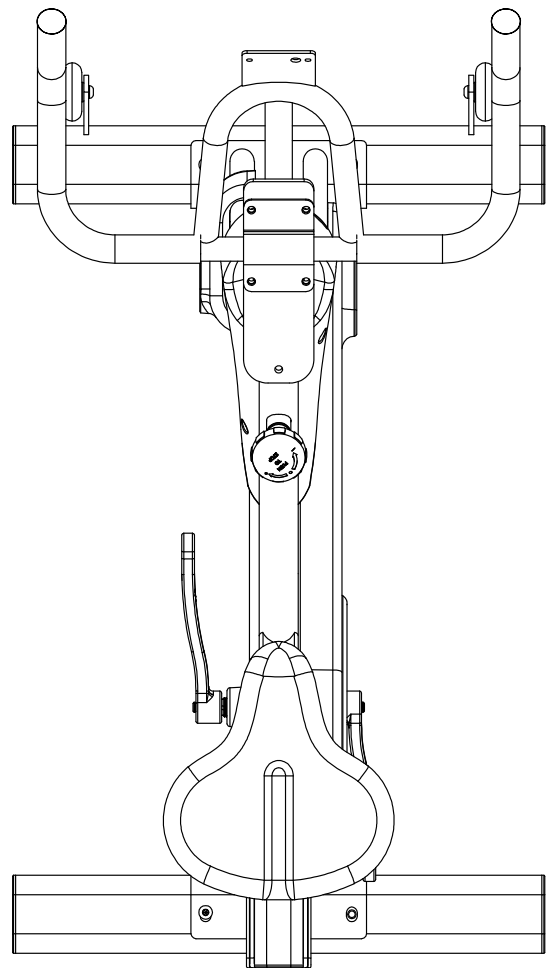

Fig. 7
The seat cushion (54) and handle adjustment (4) are in a vertical position (fig. 7).